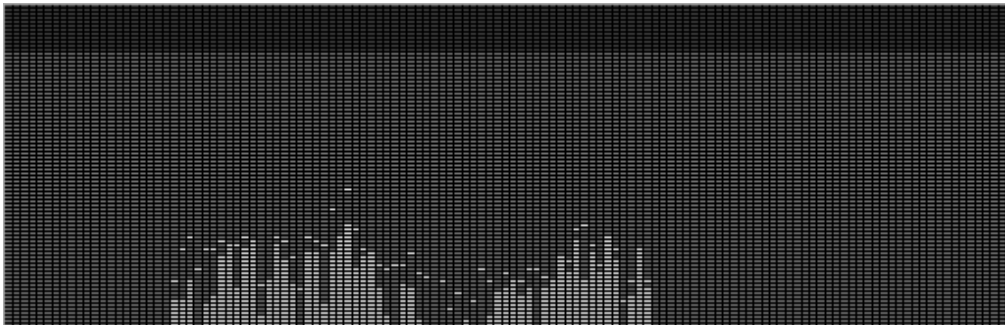

Figure 2-4 Band Pass filter applied. It effectively blocks the high and low frequencies.
**Band-pass** filters transmit only those signal components within a band around a center frequency. An ideal band-pass filter would feature brick-wall transitions at  $f_L$  and  $f_H$ , rejecting all signal frequencies outside that range. Band-pass filter applications include situations that require extracting a specific tone, such as a test tone, from adjacent tones or broadband noise. See Figure 2-4